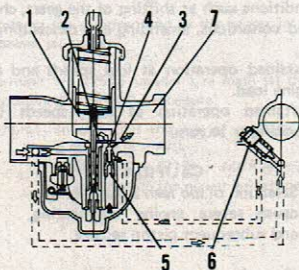
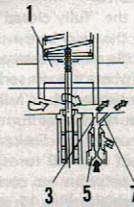

Fig. 2
Fig. 3
Motorcycle and snowmobile engines are operated under a wide range of conditions, from idling with the throttle valve (Fig. 2 (1)) remaining almost closed, to the full load (the maximum output) with the throttle valve fully opened. To meet the requirements for proper mixture ratio under these varying conditions, a low-speed fuel system (the pilot system) and a main fuel system (the main system) are provided in Mikuni VM-type carburetors.
Low-speed fuel system (Fig. 2 and Fig. 3)
The mixture is again mixed with air coming from the bypass and is drawn into the pilot outlet to mix with air flowing through the main bore (7). The fuel mixed with air at this stage then goes into the engine. When the throttle valve is opened slightly during low speed operation, the pilot outlet alone cannot supply the required fuel and the shortage has to be made up with fuel injected from the bypass. The adjustment of the mixture ratio during this stage is made by the pilot jet and the air screw, in the case of a two-hole type fuel system (Fig. 3). While at low speed operation if full throttle is initiated a similar shortage of fuel exists and during this transition from low to medium or low to high the fuel again has to be injected from the bypass until enough vacuum can be created to draw fuel from the main fuel system.